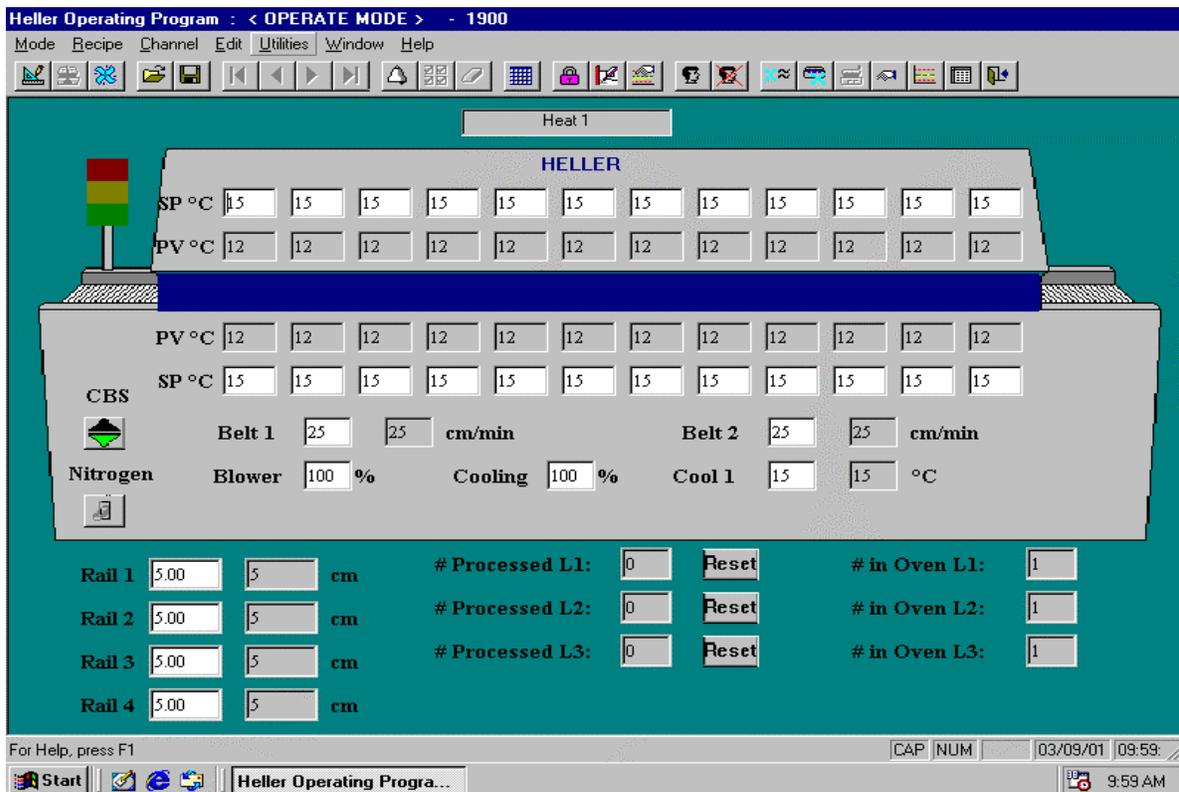

Figure 23
- a. Main Overview displays a graphical representation of the oven usually the screen that is left displayed and can be returned to from any other screen. Click the Main Overview icon on the main toolbar or from the menu bar click Window then Main Overview. **See Figure 23.**